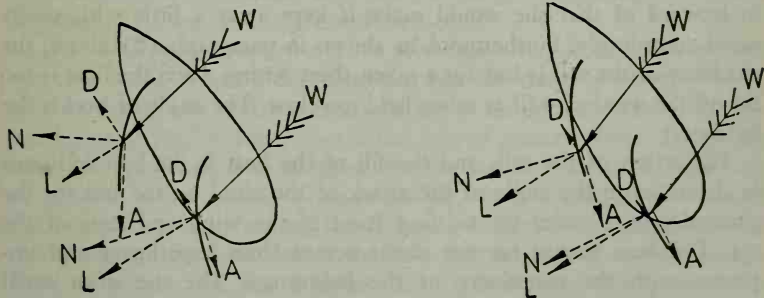

FIG. 33-11.
(a) *On the wind*.—(1) It will be noted that with a given force of the wind, the flatter the sails are sheeted the smaller is the  $D$  component and the greater the  $L$  component (Fig. 33-11). In other words, the